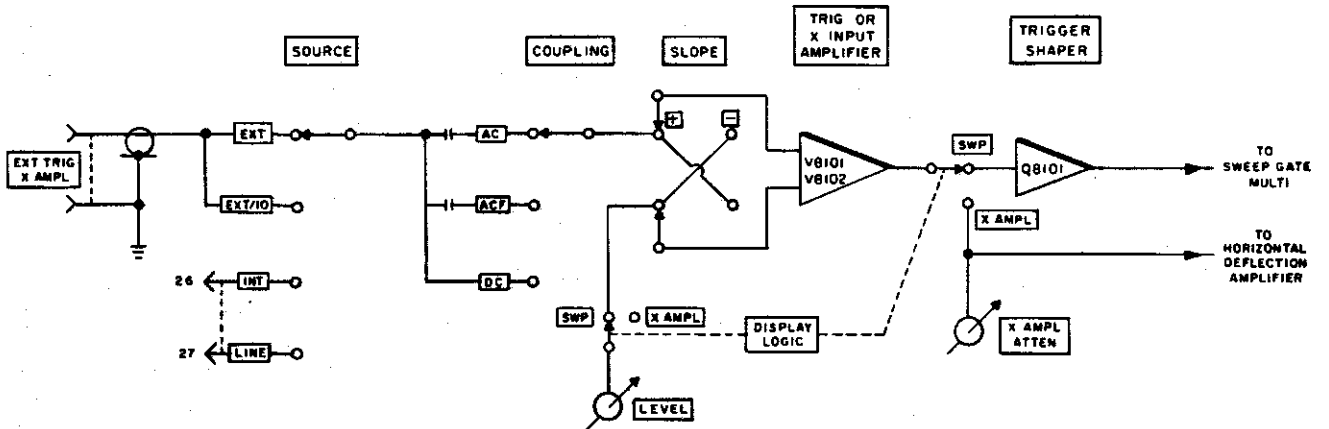

Figure 3-1b. DA Trigger 8 X Input Circuits, Functional Block Diagram
- Figure 3-1b. DA Trigger Circuit, Functional Block Diagram
When the DISPLAY LOGIC switch is set to X AMP, the EXT TRIG input connector of the Delayed Sweep becomes the X Amplifier input. Simultaneously, the Delayed Sweep LEVEL control becomes the variable X Amplifier ATTENUATOR control. The PULL EXT/10 setting provides 10:1 attenuation of the X Input signal. Thus external signals may be applied to the X AMP front-panel BNC connector. These signals are coupled to the X Input amplifier V8101 and V8102. The output of this amplifier is coupled to the horizontal deflection circuit via the X AMP setting of the DISPLAY LOGIC switch. See Figure 3-1b.